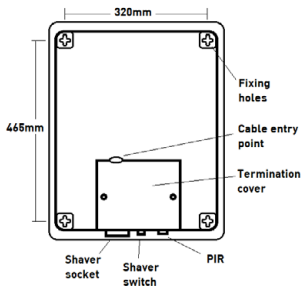

Fig. 1
- Mark the location of the fixing holes (see Fig. 1) and drill the holes ensuring not to infringe with any gas/water pipes or electrical cables